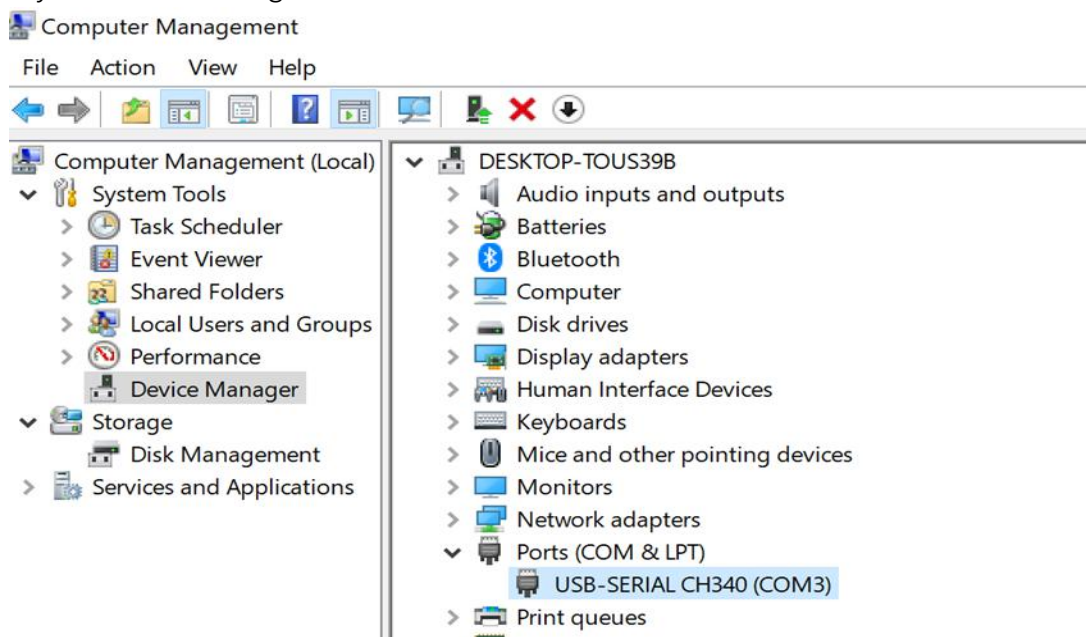

Fig. 3.2.1
- (1) Software installation: Win7 / Win8 / Win8.1 / Win10.net
- (2) Connection: connect the data cables or wireless data link. USB cable connects to your computer.
- (3) Driver Debugging: Right click “My Computer” to “Computer management” , click “Device Manager”. User can find “USB Serial Port (COM XX)” which indicates driver has been installed automatically , as shown in Fig. 3.2.1